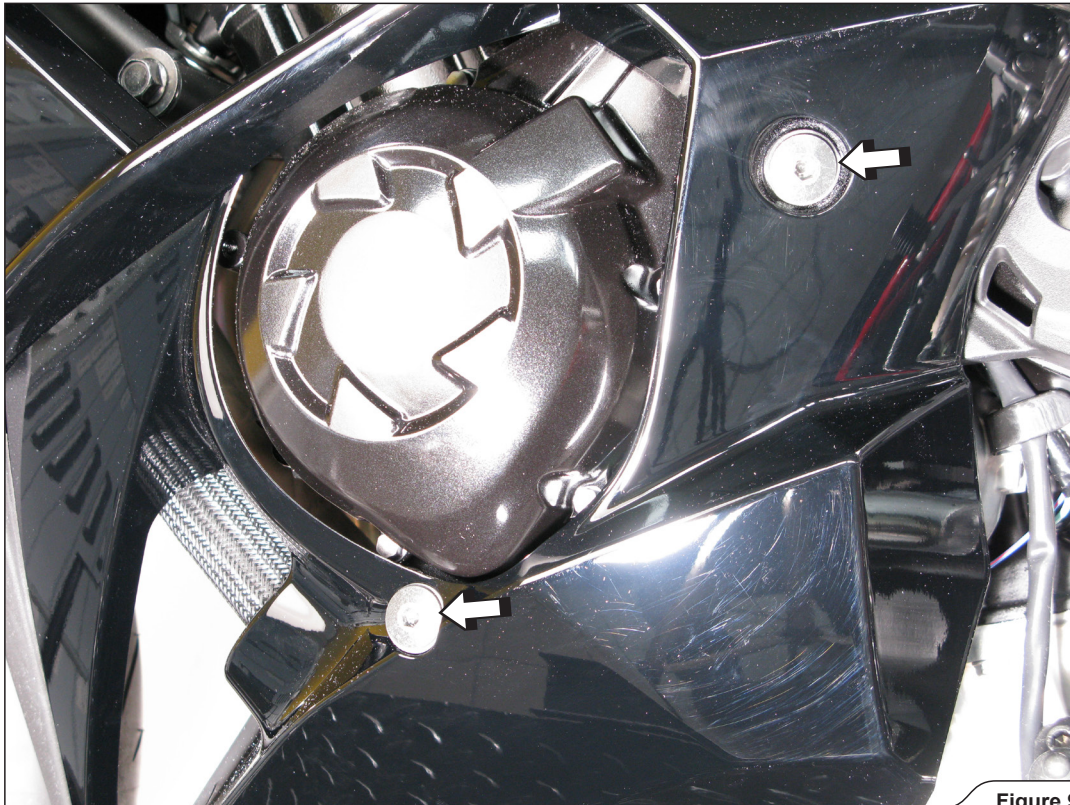

Figure 9
8. **For Z1000SX model only:** unscrew the marked bolts and remove the marked plastic fasteners from the left and right side of the cowling. Partially remove the cowling, disconnect the turn signal electrical connector and then completely remove the cowling (Figure 9, 10, 11, 12, 13). Perform the process on both sides of the motorcycle.